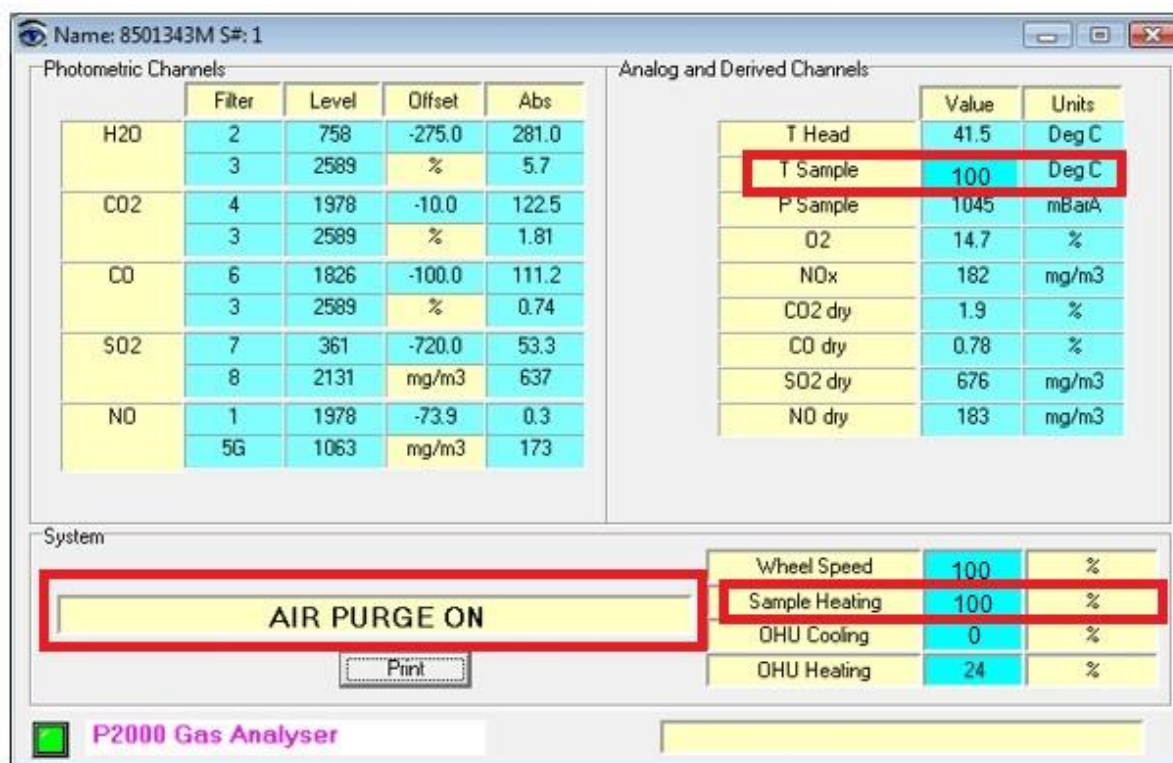

Figure 3-6 P2000 Analyser Test Screen (S-PC (formerly ACWn)) software
22. The TEST SCREEN displays both the Sample Temperature and the Sample Heating as a percentage figure (with ISH fitted) or as "Not Fitted" (when ISH is not fitted) as shown in Figure 3-6 below. The Sample Heating will normally show 100% when the in-situ heater is in full heating mode and the temperature is rising towards the pre-configured temperature set point.